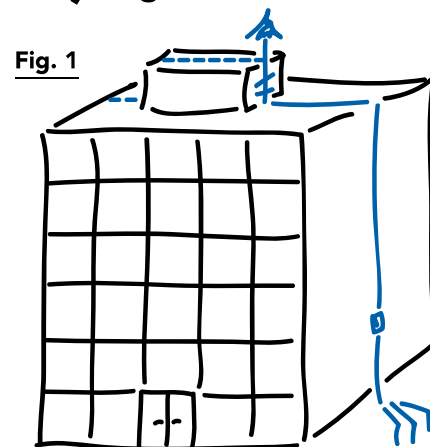

Fig. 1
PREVECTRON® Early Streamer Emission Lightning Conductors (E.S.E.L.C.) (Fig. 1)
- Two earthing points to channel and dissipate the lightning current (Fig. 1)